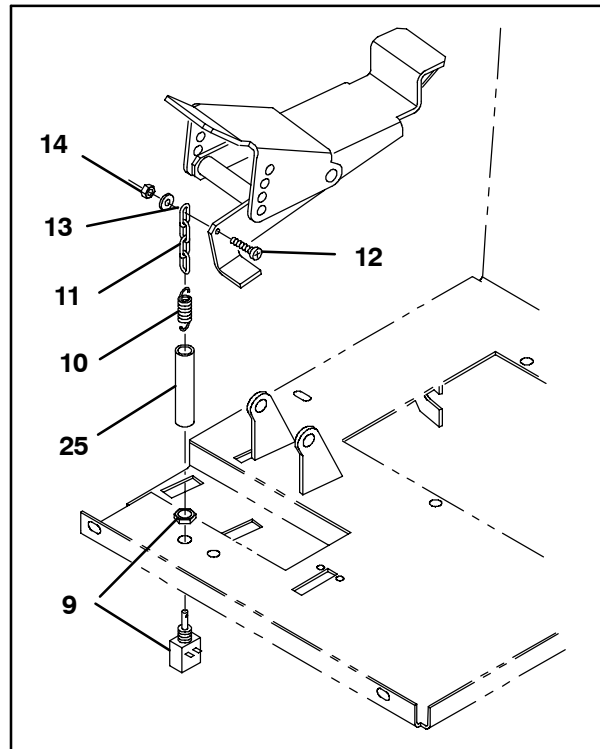

FIG. 11
- Hook the spring (10) to the switch (9). Refer to Fig. 11.
NOTE: It is not necessary to remove the propel pedal to install items shown in Fig. 11. The exploded view is used to better illustrate how the parts are assembled onto the machine.